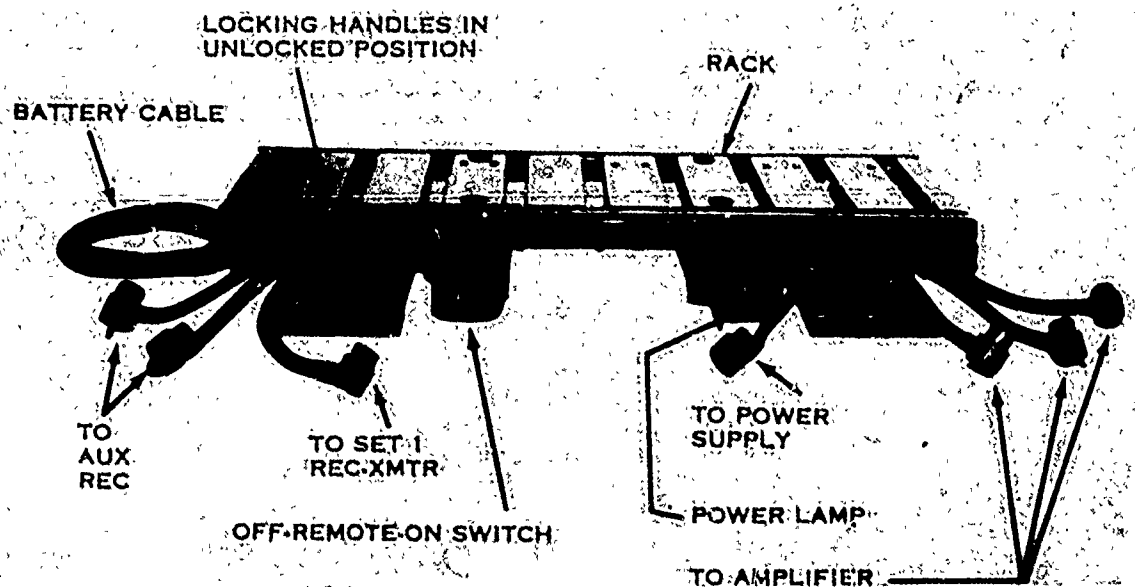

Figure 4-2. Mount MT-297/GR.
- (1) MT-297/GR (AN/GRC-7, AN/GRC-8 and AN/VRC-15). (Figure 4-2)